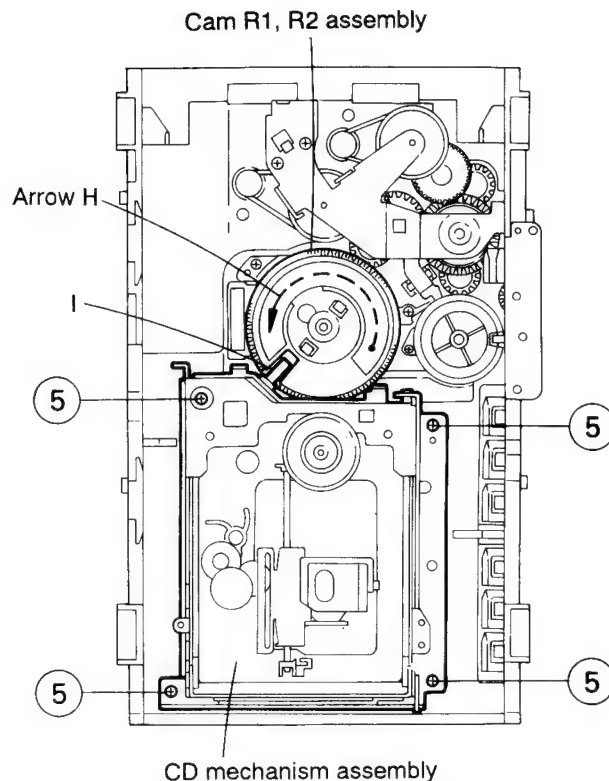

Fig. 5-32
## ■ Removing the CD mechanism assembly (See Fig. 5-32)
1. While turning the cams R1 and R2 assembly in the arrow direction (I), align the shaft (J) of the CD mechanism assembly to the position shown in Fig. 5-32.
2. Remove the four screws (5) retaining the CD mechanism assembly (See Fig. 5-32).